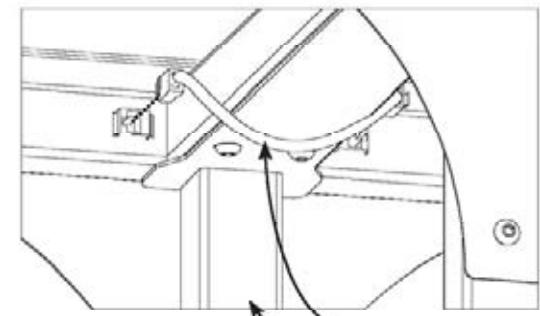

Fig. 16-1
**16-1:** Plug the Ethernet Cable Short into the Ethernet ports on the underside of the Table Assemblies between the Middle Leg. (Fig. 16-1)
**17-1:** Switching the Speed Control Knob setting away from STOP turns the sliding rail on and controls the speed at which the sliding rails move. (Fig. 16-1)